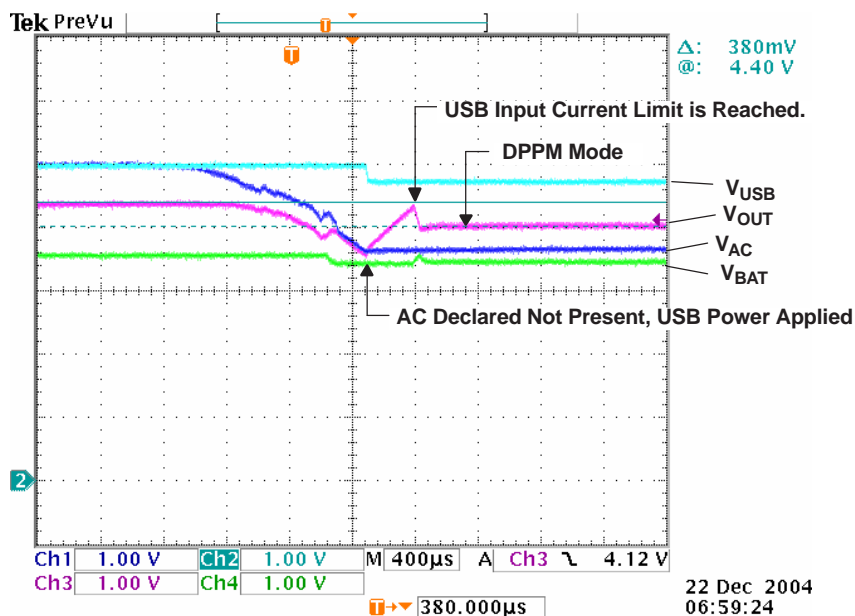

Figure 7. Remove AC – PWR XFER to USB
Figure 7 illustrates when AC is removed, power transfers to USB; PSEL = H (AC primary source); channel 1 (CH1) $V_{AC} = 5.4\text{ V}$; channel 2 (CH2) $V_{(USB)} = 5\text{ V}$; channel 3 (CH3) V_{OUT} ; output current, $I_{OUT} = 0.25\text{ A}$; channel 4 (CH4) $V_{BAT} = 3.5\text{ V}$; and $I_{(PGM-CHG)} = 1\text{ A}$. The power transfer from AC to USB only takes place after the primary source (AC) is considered bad (too low, $V_{AC} \leq V_{BAT} + 125\text{ mV}$) indicated by the ACPG FET turning off (open drain not shown). Thus, the output drops down to the battery voltage before the USB source is connected (6th div). The output starts to recover when the USB FET starts to limit the input current (7th div) and the output drops to the $V_{(DPPM-REG)}$ threshold.